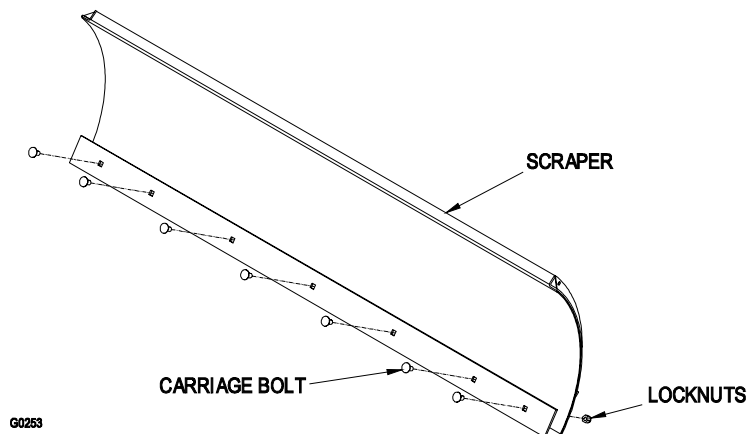

Figure 15
2. Remove the carriage bolts and locknuts securing the scraper (Fig. 15).
3. Reverse the scraper and install it with the previously removed hardware (Fig. 15).
4. Remove the blade retainer plates from the support plates and unhook the blade assembly (Fig. 15). Do not remove the support plates.